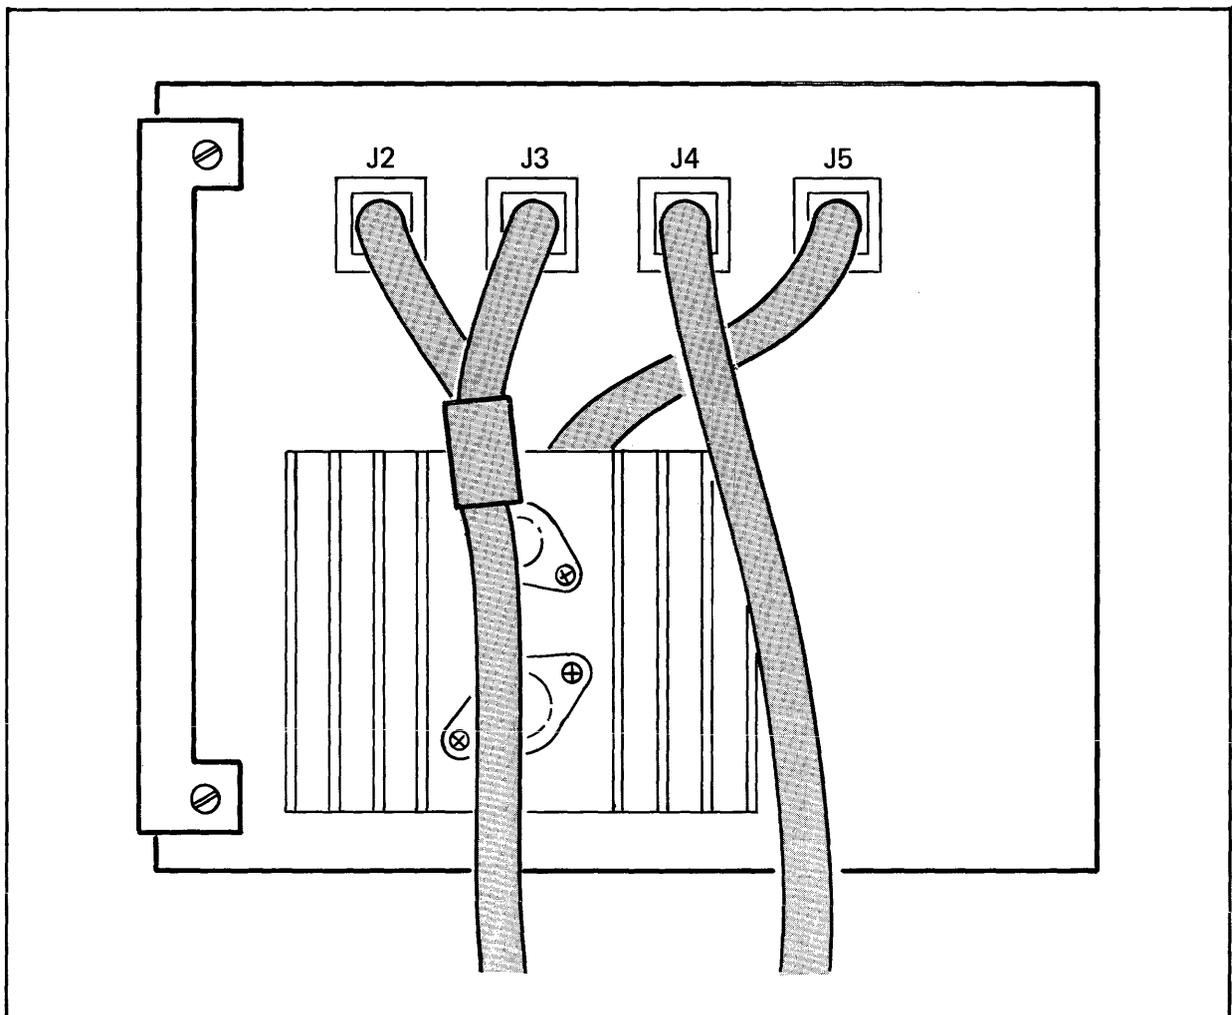

Figure 2-4. HP 30311A Power Supply with Existing Cables
- b. Open the rear cabinet doors, and locate the HP 30311A Power Supply to be used (see figure 2-4).